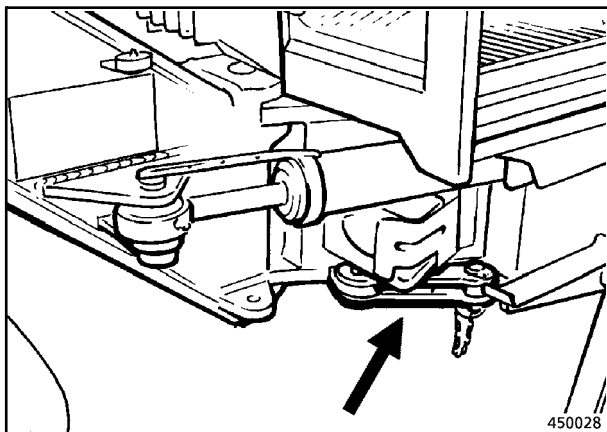
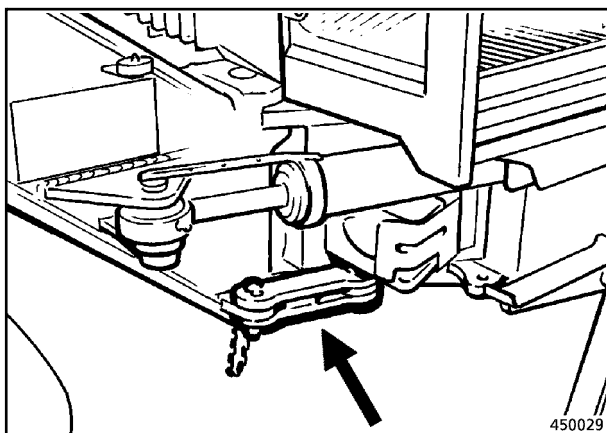

Fig. 2
Fig. 3
- Release the retaining rod (Fig. 2) from the rear shackle of the rear frame, swing forwards and attach to the front frame shackle and secure (Fig. 3).
- Bring the retaining rods (Fig. 3) on both sides of the machine back to their original position as shown in Fig. 2.